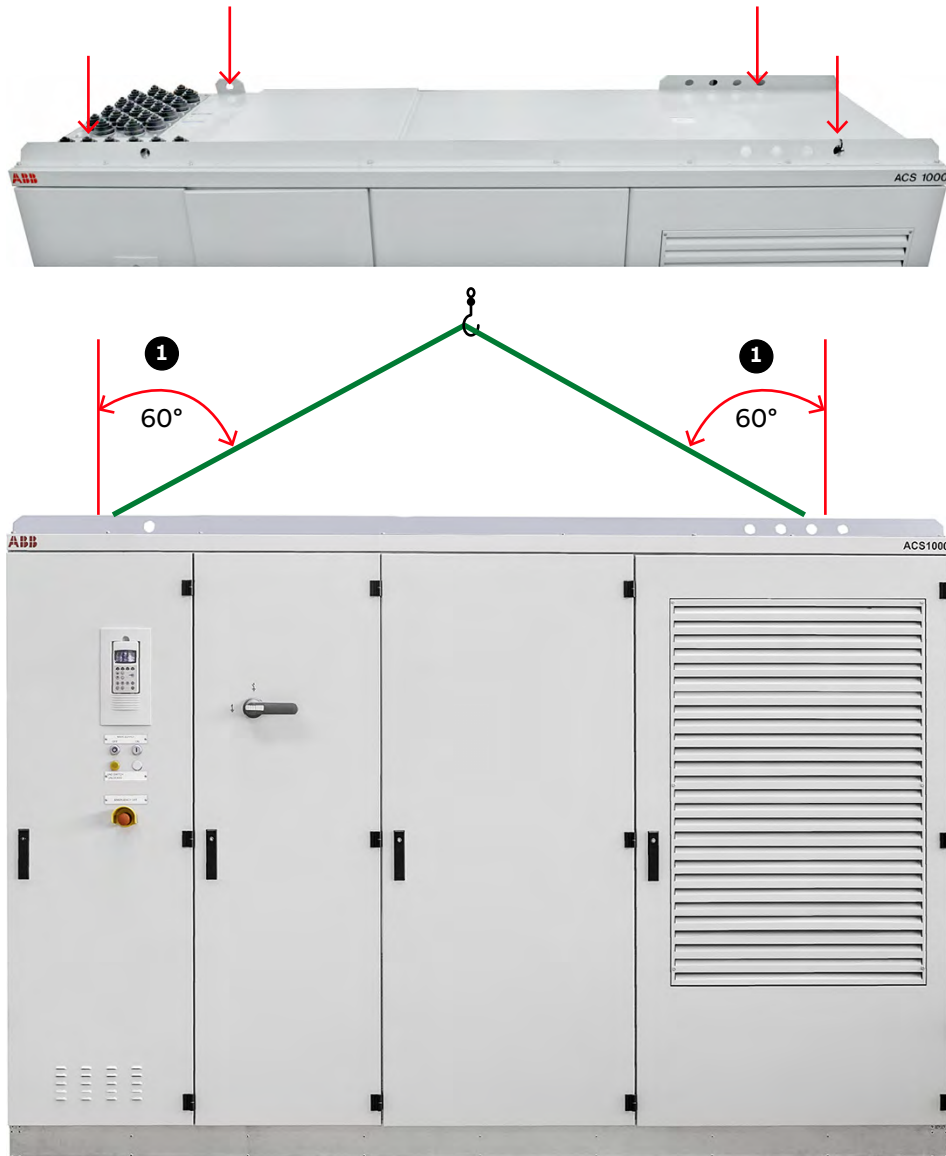

Figure 5-1: Transporting the cabinet by crane
- Attach a sling to the outer fastening holes of the rails (arrows in Fig. 5-1).
- Maximum slope angle is 60° (1 in Fig. 5-1).